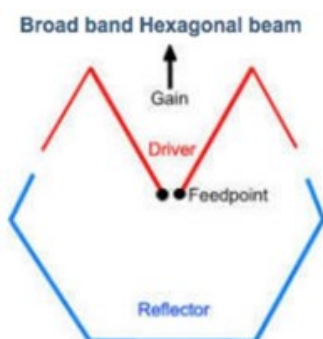

Figure 4. Broadband Hexagonal Beam. ¹
slightly different configuration of the hexbeam (<https://www.k4kio.com/history-of-the-hexbeam/>) that is illustrated in Figure 4 and is sometimes called the M-U form. As I recall, Steve used EZ-NEC to model both the Traffie HEX-BEAM and his M-U hexbeam version which he claimed has better broadband performance, i.e., the SWR is lower across a given band than for the Traffie design. L.B. Cebik (W4RNL (SK)) also modeled the Traffie HEX-BEAM and published his results. Cebik and Hunt got similar results. I had several conversations with L.B. about his model and told him that my practical experience using my Traffie HEX-BEAM was inconsistent with his model. Without going into the details, I explained my reasoning why EZNEC doesn't model an antenna like the HEX-BEAM properly. He concurred but refused to add a comment to his modeling results. I also offered to take a Traffie HEX-BEAM to his home so that he could take real measurements himself. Nope, he wouldn't do it. It is rather interesting that, to my knowledge, all of the proponents of the Hunt design have never operated a Hunt design antenna and a Traffie design antenna side-by-side. As far as I know, Mike Traffie is the only one to have made this comparison. Interestingly, for years there has been an ongoing "debate" about which antenna version is better. I note that there have been several businesses and a number of homebrewers that built, with varying results, their version of either the Traffie design antenna or the Hunt design antenna.